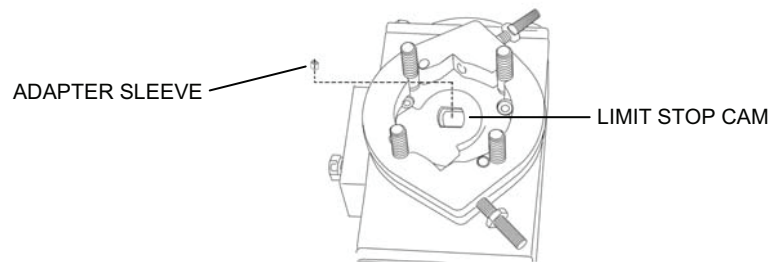

Figure 11. Limit Stop Cam Installation.
- f. Place the limit stop cam inside the limit stop body with the center hole aligned with the valve shaft adapter. Orient the cam as shown in Figure 11. and then slide the adapter through the limit stop cam and into the valve shaft adapter.